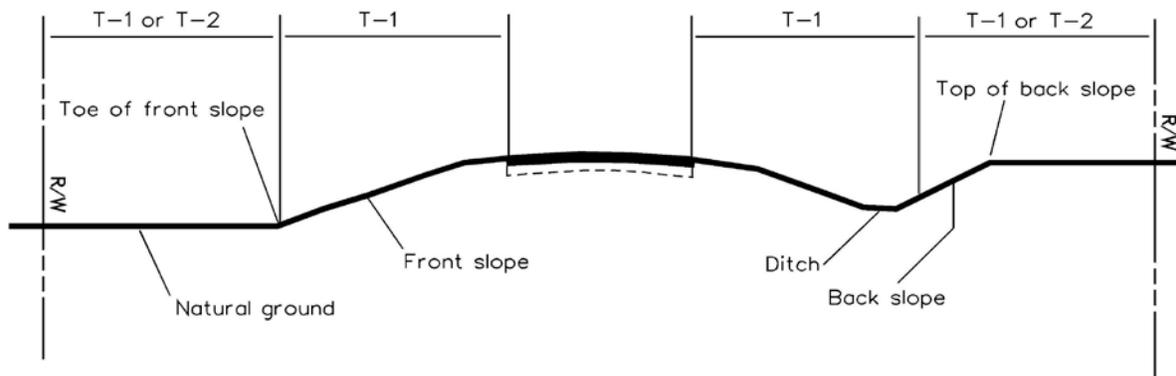

Figure 17. Roadside mowing: Typical section.
- Shoulders, front slopes, ditch bottoms, and back slopes, if applicable, (Figure 17).